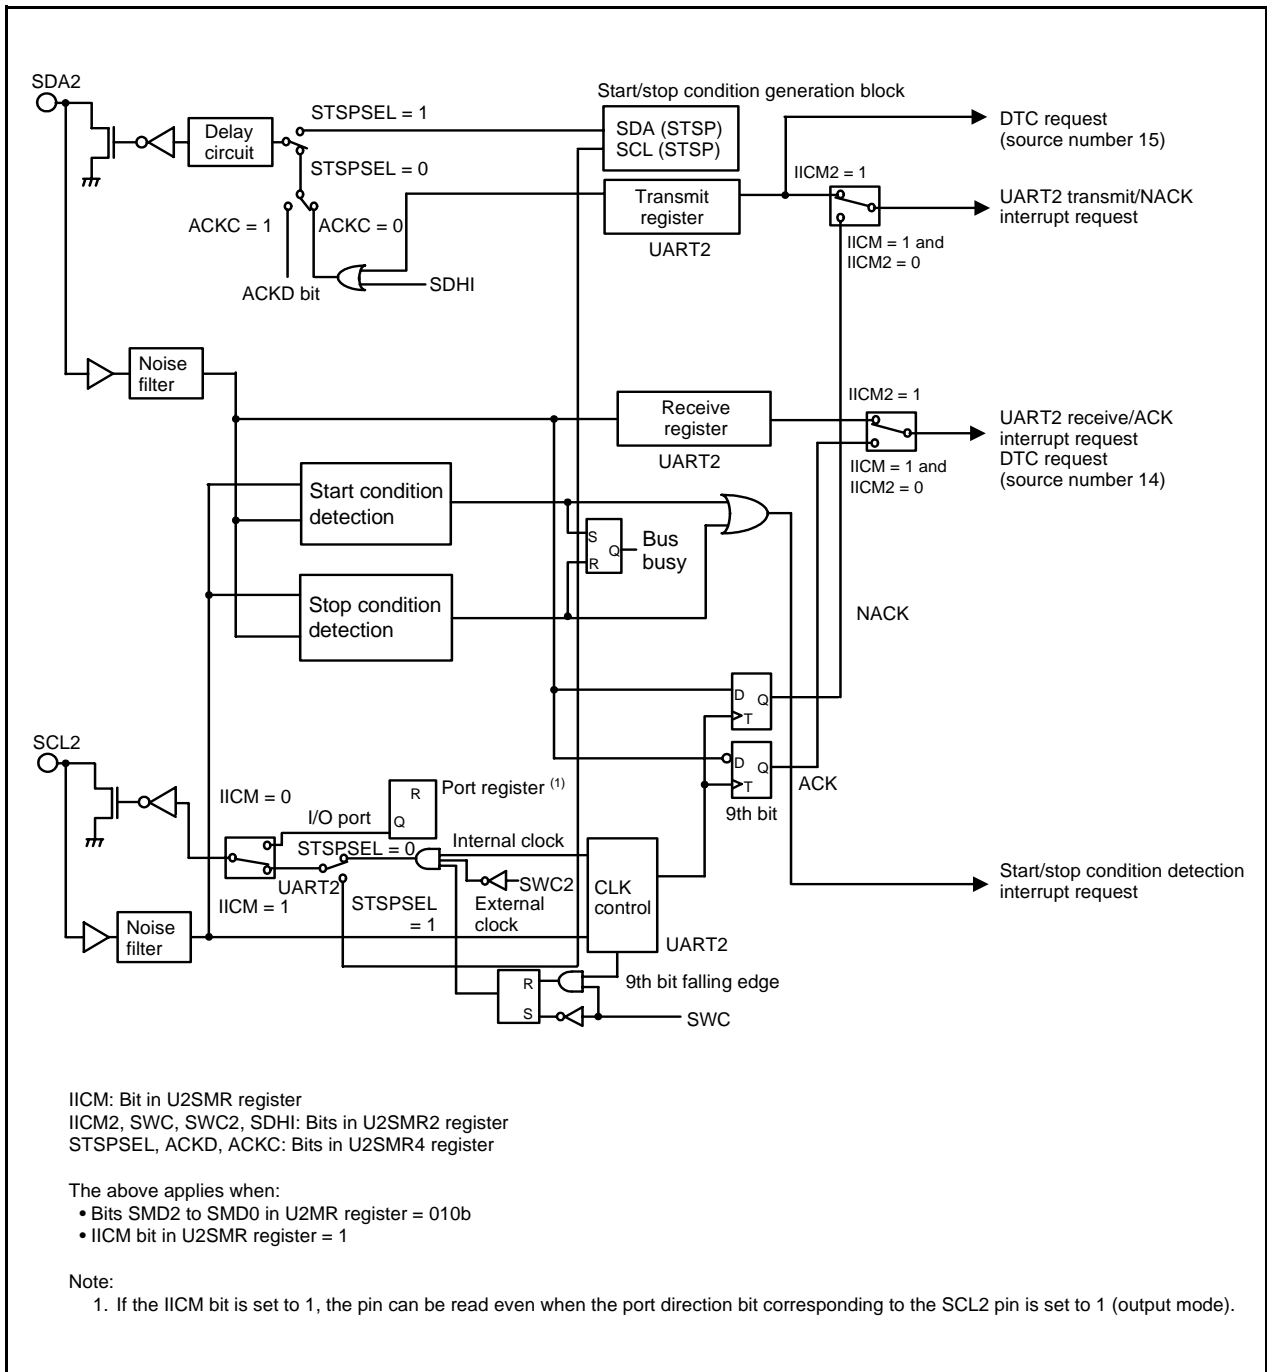
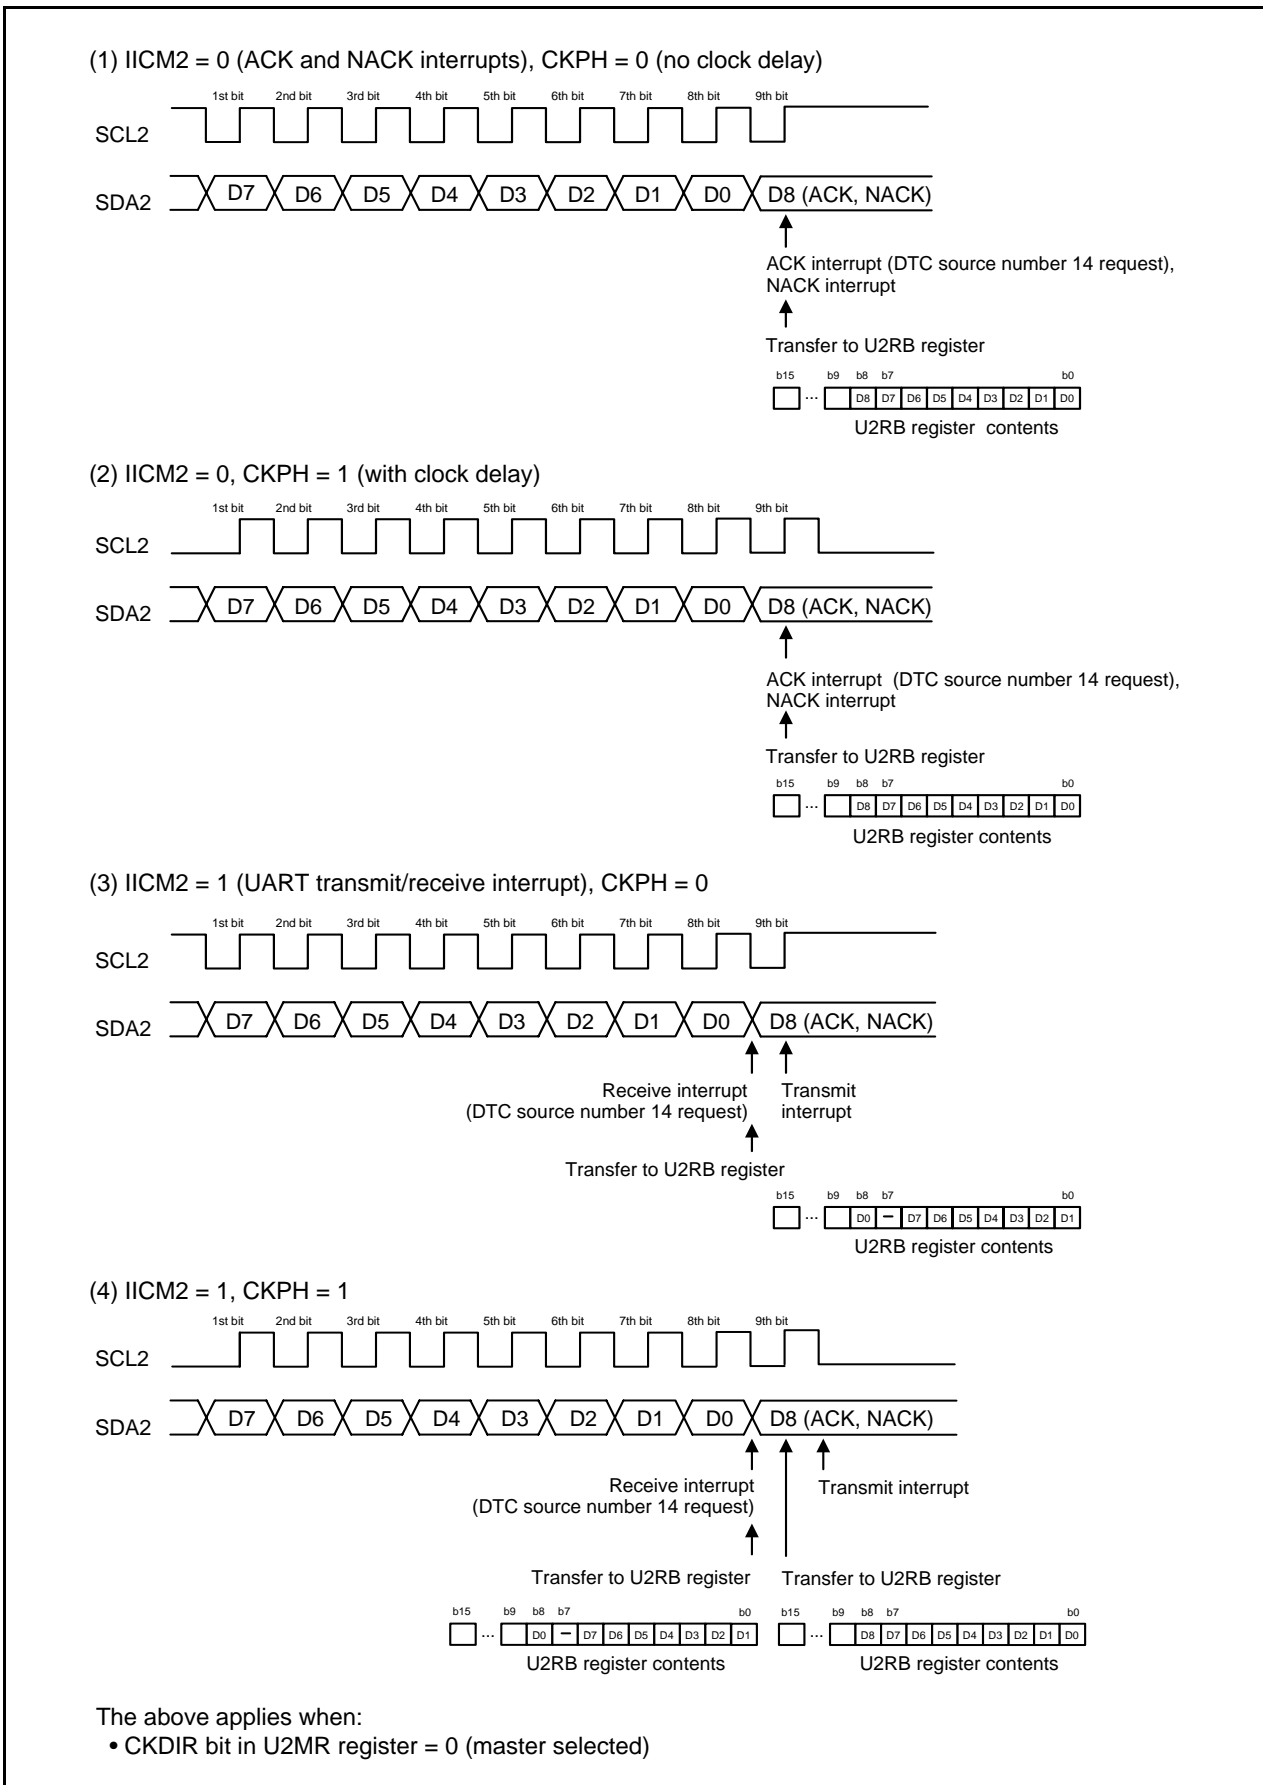

Figure 25.13 I2C Mode Block Diagram
Figure 25.14 Transfer to U2RB Register and Interrupt Timing
I2C mode is provided for use as a simplified I2C interface compatible mode. Table 25.9 lists the I2C Mode Specifications. Tables 25.10 and 25.11 list the registers used in I2C mode and the settings. Table 25.12 lists the I2C Mode Functions, Figure 25.13 shows the I2C Mode Block Diagram, and Figure 25.14 shows the Transfer to U2RB Register and Interrupt Timing.
6. Refer to **Figure 25.14 Transfer to U2RB Register and Interrupt Timing**.
The transfer clock is used to transmit and receive data as is shown in **Figure 25.14 Transfer to U2RB Register and Interrupt Timing**.